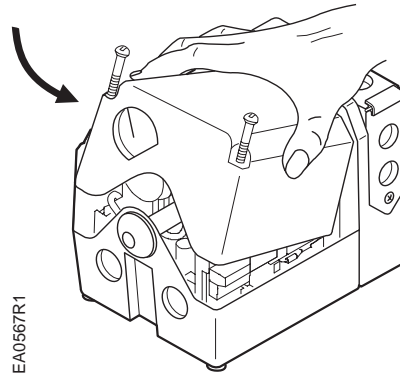

Figure 14.
1. Lift the two screws on the cover corners and slide the cover end into the grooves at the gear end of the actuator. See Figure 14.